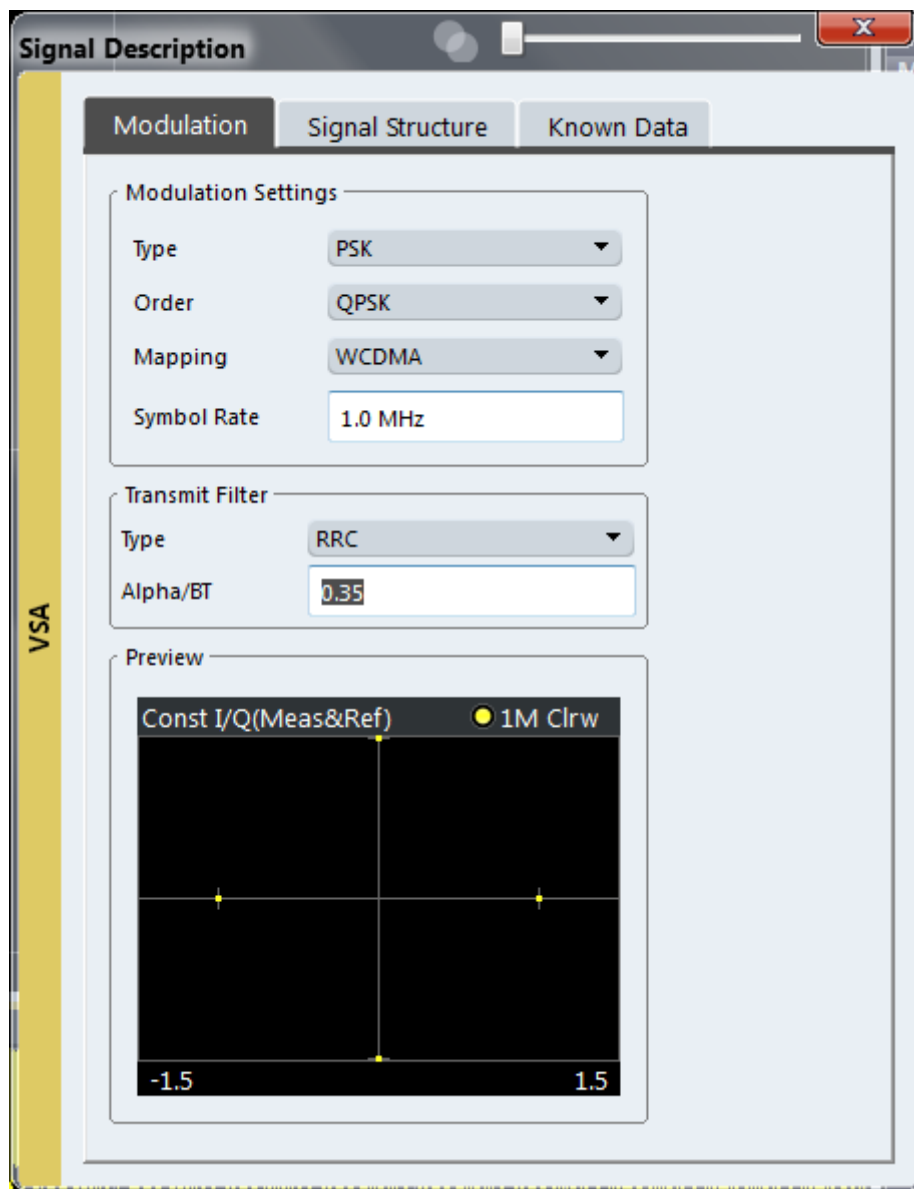

Fig. 8-2: QPSK signal with RRC transmit filter
- c) In the "Transmit Filter" section, select "RRC" as "Type" and enter the "Alpha/BT" value 0.35. In the preview area of the dialog you should then see a non-distorted QPSK constellation diagram, as shown in figure 8-2.